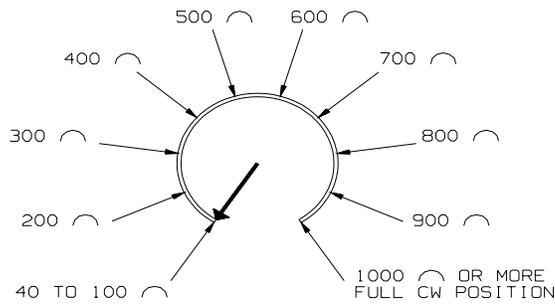

Figure 4: COIL RESISTANCE SETTING
- I9. MODEL 480 AND 240 ONLY: Use a small screwdriver and adjust the potentiometer to match the contactor coils resistance (see Figure 4). If you do not know the coil resistance leave the potentiometer fully counter clockwise (CCW). The KnowTrip® may not work if it is not adjusted properly. To better set the potentiometer, monitor the contactor to see if it drops out. If it does, increase (CW) the setting 1/8 of a turn at a time until the contactor no longer drops out (DO NOT exceed 3/8 turn past recommend setting).